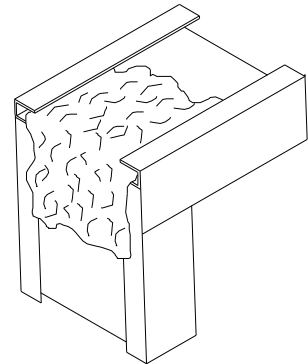

Figure 11:
2. Seal frame and vent joints completely with compatible sealant. **IMPORTANT:** Apply a heavy bead of sealant to the interior side of the mounting flange (nail-on) where the frame jamb and sill join. Sealant must cover the entire joint (from the flange to the inside leg) and extend 1 1/2" up the jamb and along the sill (Figure 11).